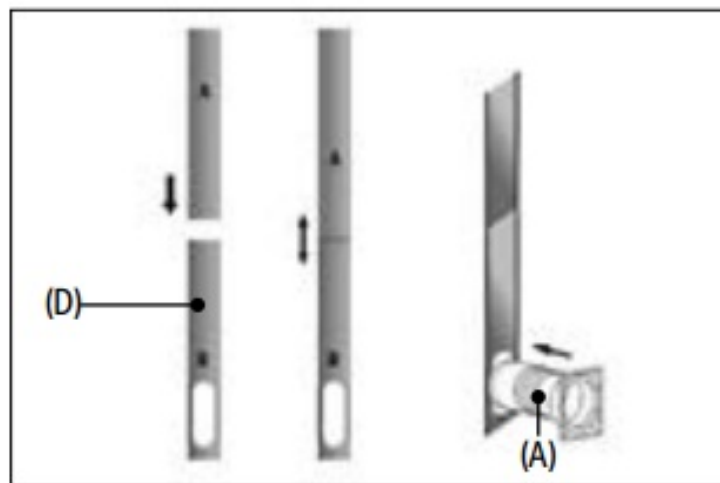

Fig. 3
3. Extend the window kit (D) to the length of your window and connect it to the exhaust hose. Fig.3